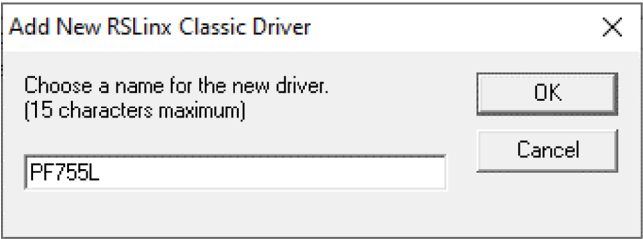

Fig. 25 — Add New Driver
- 2. Select “Add New” driver and give it a unique name, then click OK. See Fig. 25.